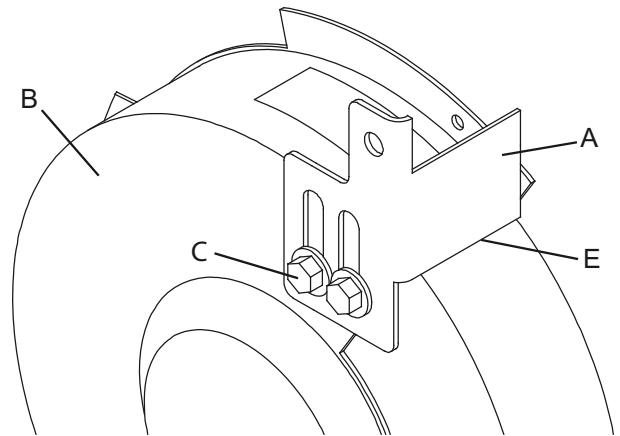

Figure 5 - Spark Arrestors
Refer to Figure 5
1. Assemble the Spark Arrestors (A) to the inside surface of the Wheel Covers (B) with the hex head screws with washers (C) as shown. See Figure 5.
2. Adjust each Spark Arrestor until the lower edge (E) is 1/16" from the grinding wheel. Firmly tighten the hex head screws. See Figure 5.